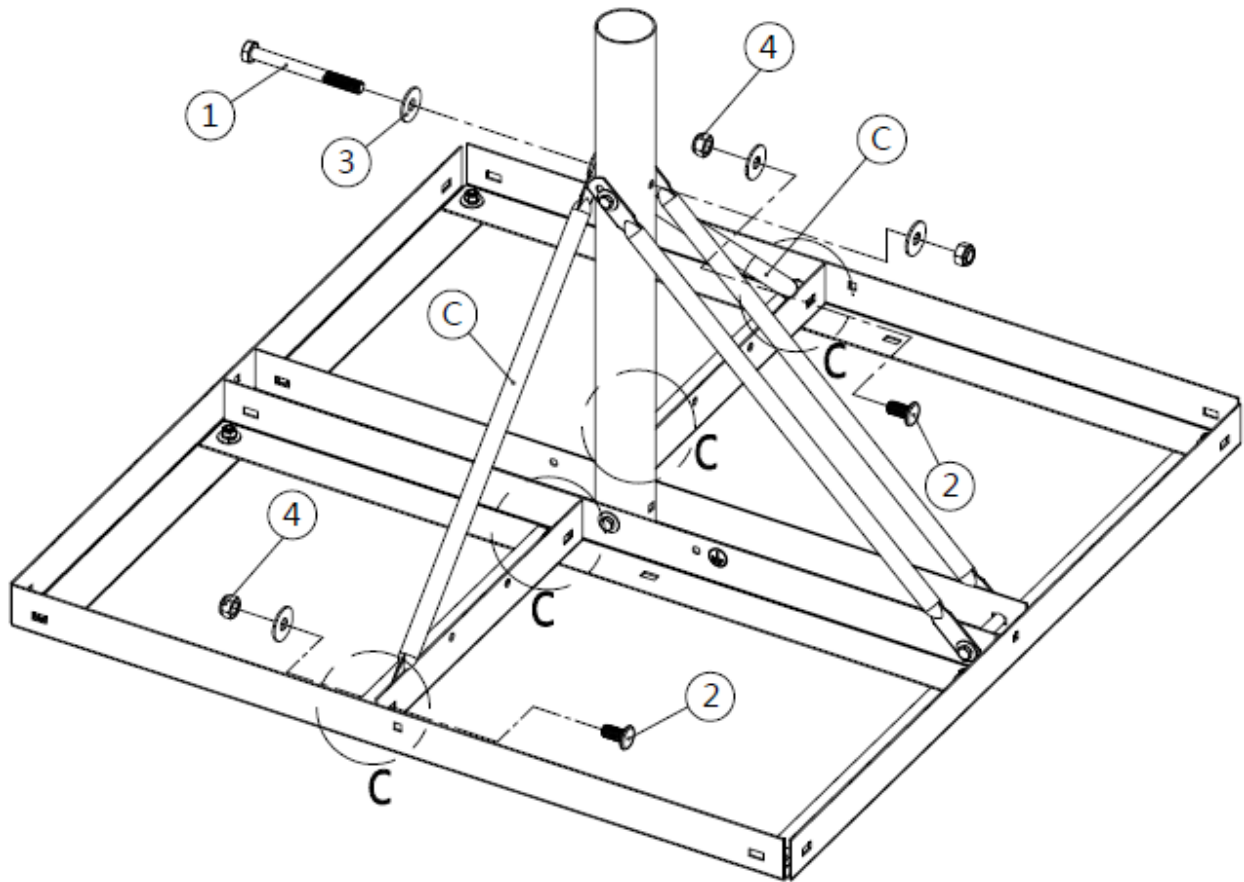

Figure 35: Installing the second two side supporting rods
5. Assemble the second set of two supporting rods (C) as shown in Figure 35 below. Each supporting rod is secured to the base using a round flat head square screw (2), one washer (3) and one nut (4).